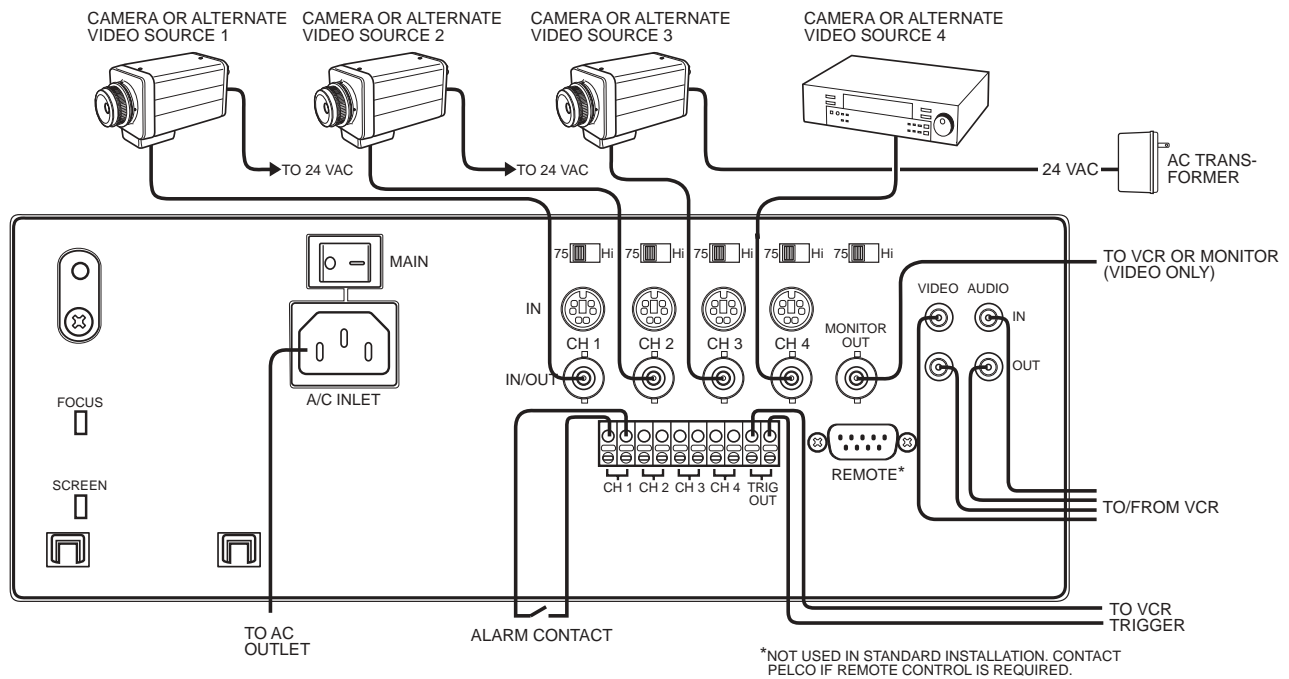

Figure 3. Monitor Connections
2. Connect cameras or alternate video sources to the desired channel IN/OUT connectors on the back of the monitor (refer to Figure 3).
3. Set impedance switches to the 75-ohm position (refer to Figure 3).
4. If alarm contacts are used, run wires from the contacts to the monitor and connect at the push-in connector on the back (refer to Figure 3).
5. If used, connect a VCR to the VIDEO/AUDIO IN/OUT jacks and/or MONITOR OUT connector, depending on the type of connectors on the VCR (refer to Figure 3). If MONITOR OUT is not used for a VCR, another monitor can be connected. If MONITOR OUT has equipment connected to it, set the impedance switch to HI. If MONITOR OUT is unused, set the switch to 75 ohms.
6. Plug in the power cord (refer to Figure 3).
7. Turn on MAIN switch on the back of the monitor (refer to Figure 3). Then press the POWER button on the front of the monitor.
If a VCR is connected at the Video and Audio jacks (refer to Figure 3), the image displayed on the screen can be recorded. To enter the playback mode, hold the ALT button while you press the VCR button; the screen displays VCR playback. Press Reset to return to the normal display mode.